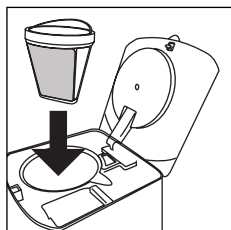

fig. 5
- Place the permanent filter in the filter holder (fig. 5).